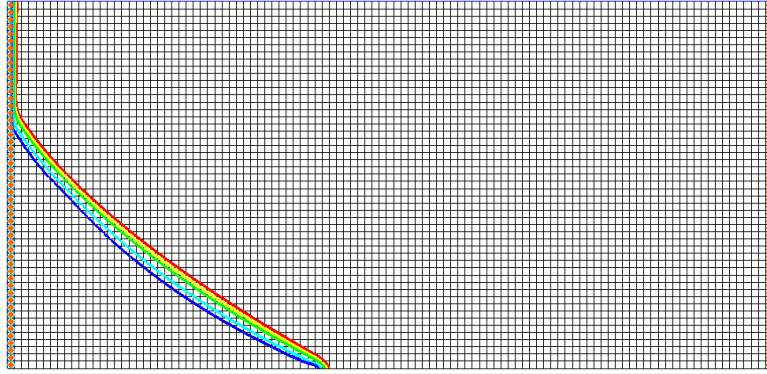

Figure 5 Time step 2 (after 5 minutes)
2. Select time step 2 (value of “5.0”) in the Time Steps window (Figure 5).